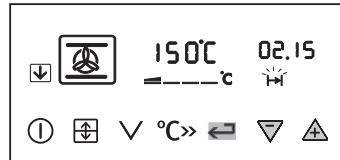

Fig.11.
- iv) To set the length of cooking time, press the Time Selector button until the 'Cook Time' indicator (  ) is illuminated. Press the increase control button (  ) until the required length of cooking time is displayed, e.g. 2 hrs 15 mins as Fig. 11. Depress the decrease control button (  ) if necessary.